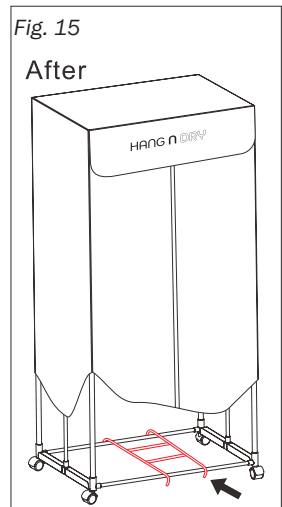

Fig. 15
12. Then secure the fabric over the top of the frame using the zips, then place the steel hanger at the bottom of the frame as shown in Figure 15.